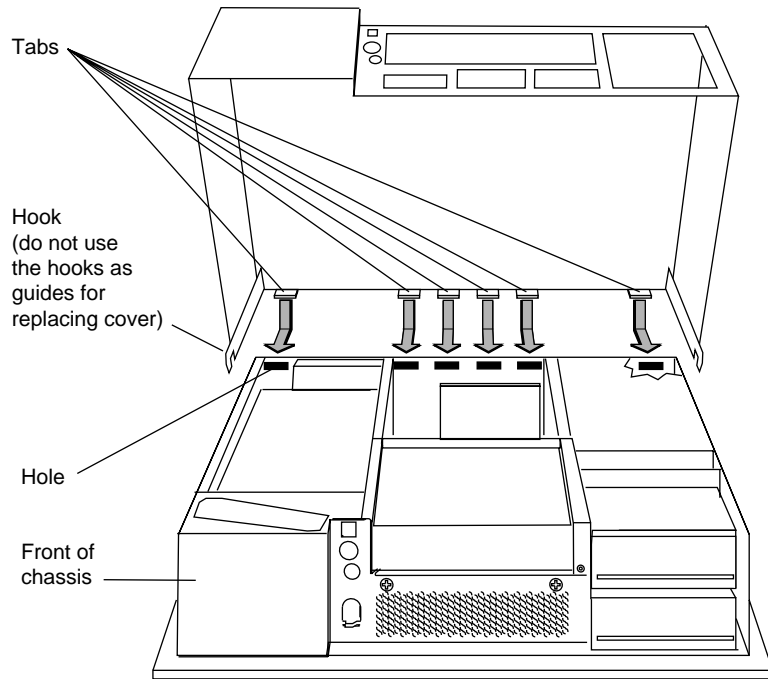

Figure 2-31 Looking Through Holes to Place Tabs
1. Align and close the top cover (see Figure 2-31).